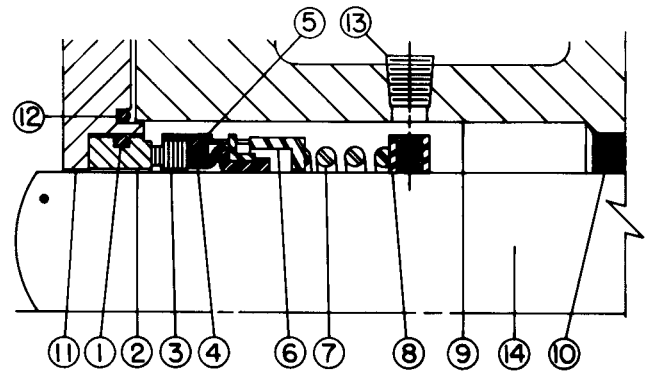

FIGURE 14
16. Inspect the mechanical seal for wear or damage. Refer to figure 14 for mechanical seal list of parts. In general, if the pump has been operated long enough to exhibit other worn parts, it is likely the seal will have to be replaced. Replacing individual seal parts is not recommended, i.e., a used seal washer will not perform satisfactorily when run against a new stationary seat.